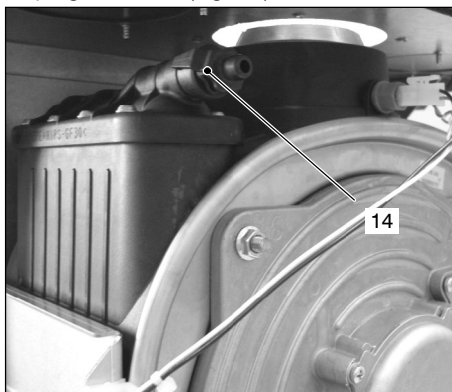

Fig. 7.2
- 3 Unscrew the condensing heat exchanger air purger valve 14 (Fig. 7.2).
- 6 Close the condensing heat exchanger air purger valve 14 (Fig. 7.2) when water begins to flow out.